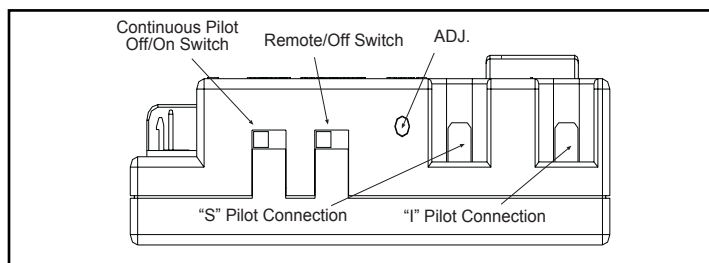

Figure 49 - Gas Module Right Side
1. There is a switch located on the right side of the module that reads CONTINUOUS PILOT ON/OFF. This switch selects the pilot's mode of operation (**Figure 49**).